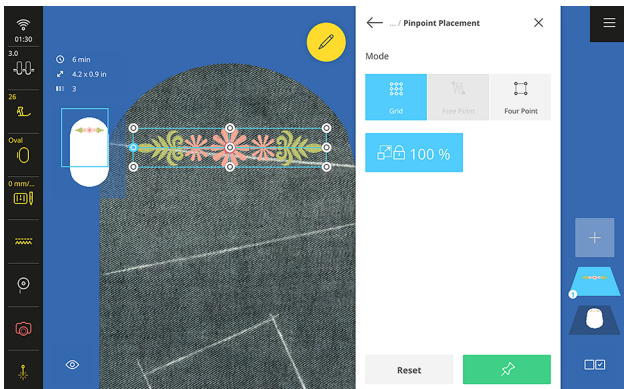

Fig. 44
13. Use the Multi-function Knobs to move this point onto the left side of the top line marked on your fabric. Zoom in if needed and use the Pinpoint Laser to confirm placement (Fig. 44).